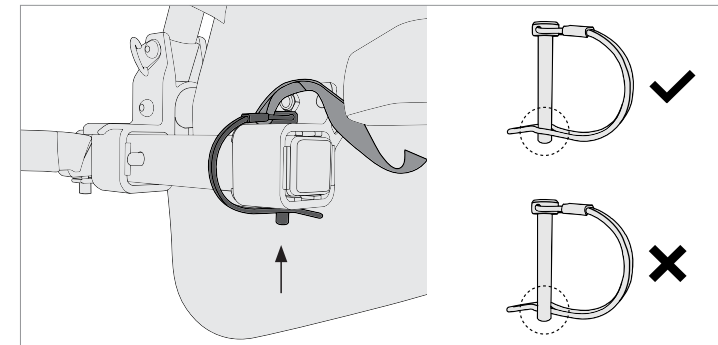

Figure 10
3. Make sure the retaining pin has locked properly as shown (Figure 10).